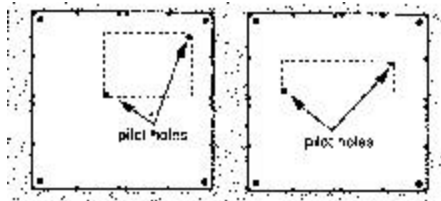

figure 16 Laying out Internal Cutouts
- Lay the cutout on the panel (see Figure 16).